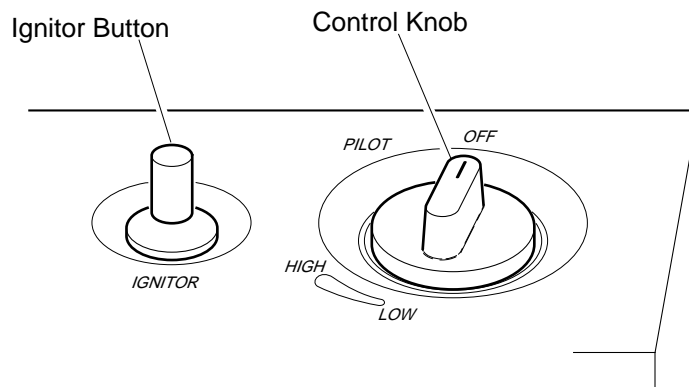

Figure 15 - Control Knob In The OFF Position
4. Wait five (5) minutes to clear out any gas. Then smell for gas, including near the floor. If you smell gas, **STOP!** Follow "B" in the safety information at the top of page 16. If you don't smell gas, go to the next step.
5. Press in control knob and turn counterclockwise  to the PILOT position. Keep control knob pressed in for five (5) seconds (see Figure 15, page 16).